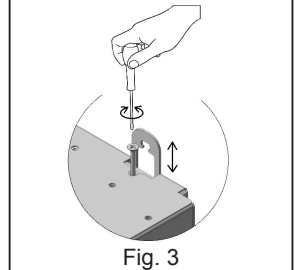

Fig. 3
- b) Rear levelling bracket that fastens on with the supplied expansion plugs (Fig. 3)